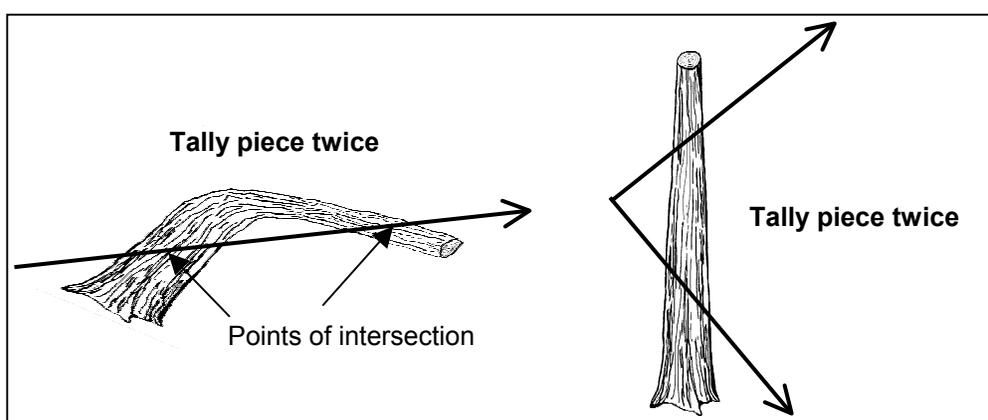

Figure 14-5. CWD tally rules: intersections.
7. If the central longitudinal axis of a piece is intersected more than once on a transect line or if it is intersected by two transect lines, tally the piece each time it is intersected (uncommon situation, see Figure 14-5).